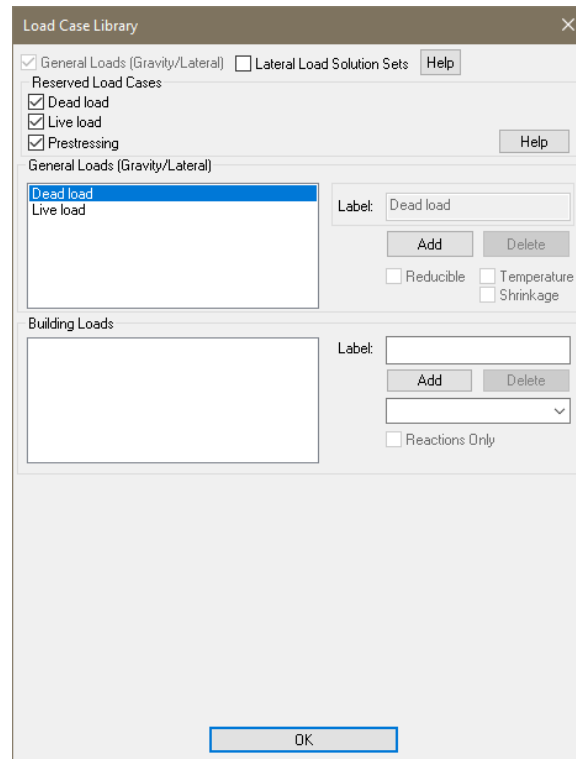

Figure 2-21
- Click on the *Load Cases*  icon. This will open the *Load Case Library* window from **FIGURE 2-21**.
- By default, the program already adds *Dead load* and *Live load* cases as shown in **FIGURE 2-21**. These are default program load cases that cannot be modified.
- Click on the check box next to *Reducible*, this sets this load case as one that is reducible so that we can apply our reducible live loads to it when the time comes. Notice reducible load cases are denoted by (R) being appended to the load case name.